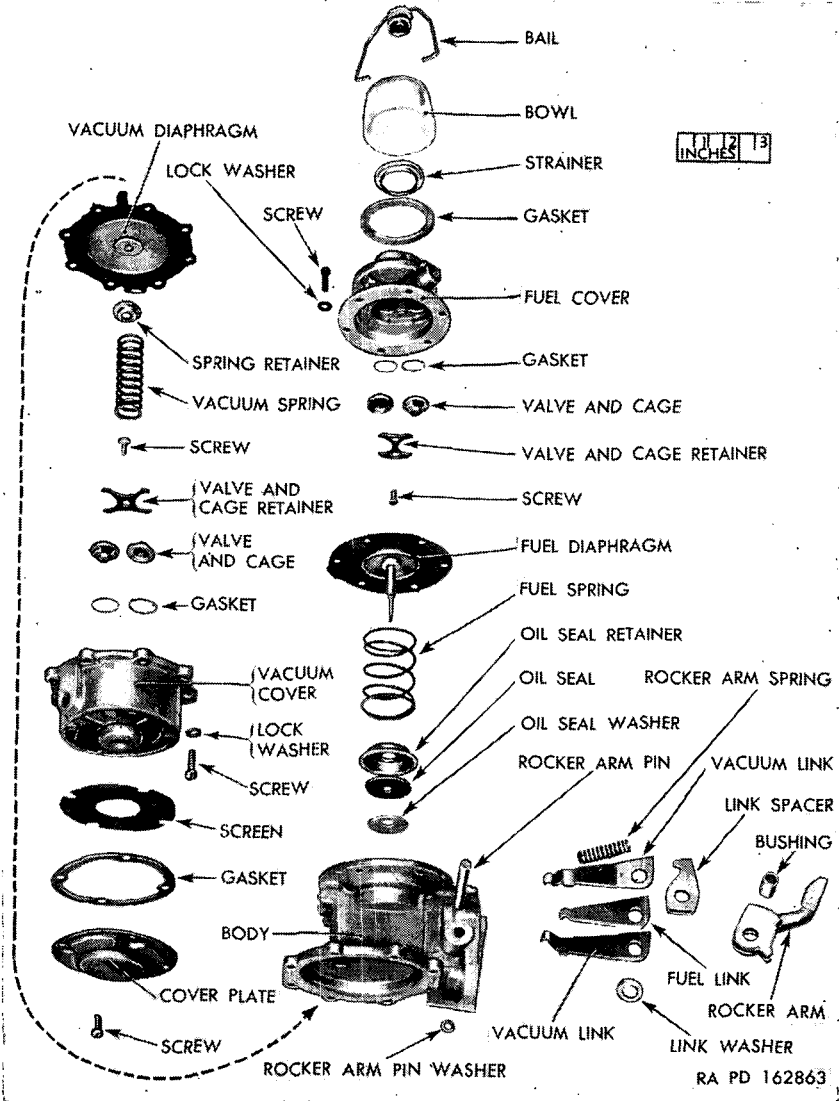

Figure 37. Fuel pump—disassembled (typical series AM construction).
(fig. 37)
a. Assemble Body (fig. 37).
- (1) Assemble link spacer over fuel link. Place one vacuum link on each side of the fuel link. The hook ends of the vacuum link should come together so that they surround the fuel link. All link hooks should point in the same direction. Place as-